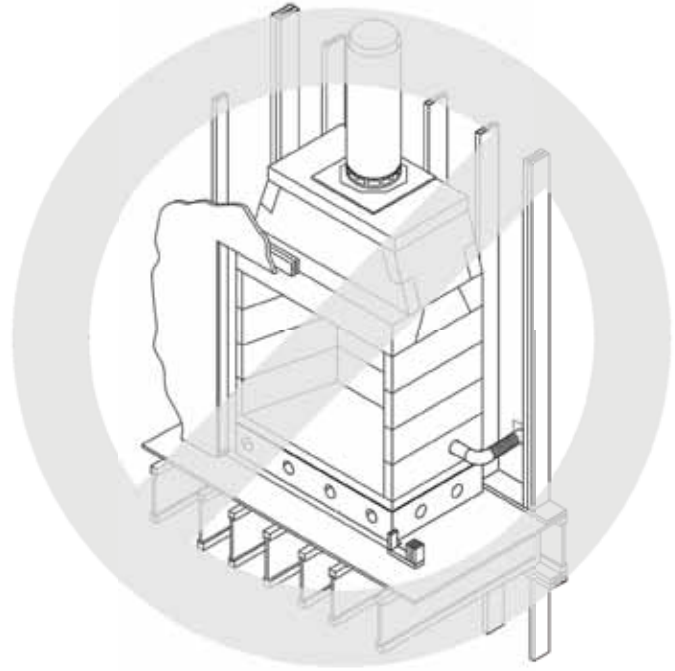

FIGURE 133
**Important:** Do not build a frame wall in front of the MAGNUM firebox and damper plate. (Figure 133)